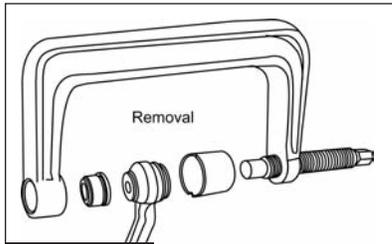
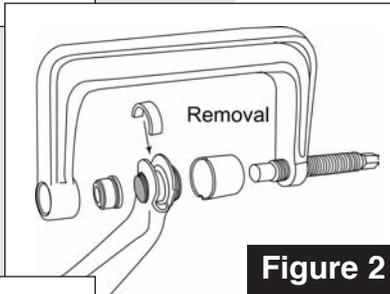

Figure 1
Figure 2
1. Install receiver tube over large end of bushing and install extractor plug on small end of bushing. On 2007 and newer 1/2 ton trucks use a standard receiver tube adapter from the #7250 Ball Joint Press. **See Fig. 1 (for 1/2 Ton Trucks) & Fig. 2 (for 3/4 & 1 Ton Trucks).**
**Note: (1/2, 3/4 & 1 Ton, HD Models, Hummer H2 Models) The Control arm has a double eyelet at each end, a spacer is needed which is placed between these eyelets to (To Prevent bending) when removing and installing control arm bushings. (See Fig. 2)**